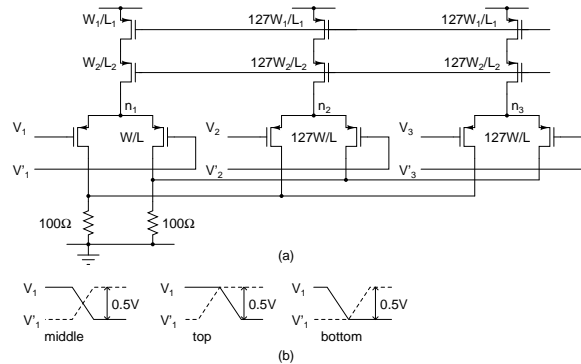

Figure 2:
2. Simulate the circuit designed in the previous problem with a power supply of 1.8 V. Use the values of switching voltages  $V_i$ ,  $V'_i$  calculated earlier. Simulate the configuration shown in Fig. 2(a)1
1In Fig. 2(a), the DAC is divided as a parallel combination of a unit cell and two cells that are 127 times the unit cell. Setting up 255 unit cells and simulating them with thermometer coded inputs takes a long time. Combining the cells as shown reduces the time required to setup and run the simulations
Redo the above simulations when the waveforms cross at the top and the bottom (Fig. 2(b)).